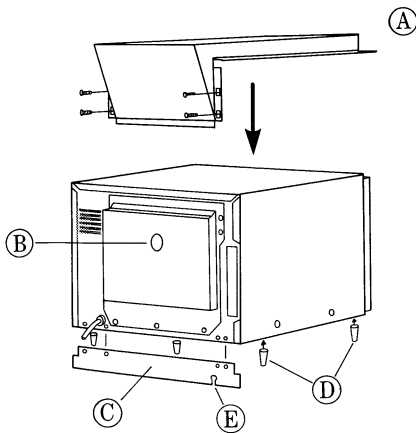

FIG. 4.
To fit the ducting kit (A - Fig. 4) to the oven, first place the oven upright on a flat surface. Second, remove the cover plate (B - Fig. 4) fitted to the rear of the oven by unscrewing the fixing screws securing it. Finally, fit the ducting kit (supplied with the oven) to the rear of the oven using the screws that have been removed.
To fit the baffle and the raised feet to the oven, first place the oven on its side on a flat surface. Second fit the baffle (C - Fig. 4, supplied with the oven) to the bottom rear of the oven, using the existing screws already in-situ. Finally, unscrew the four feet from the underside of the oven (D - Fig. 4) and replace with the four raised feet supplied with the oven as shown in Fig. 4.
N.B. Do not pass supply cable through slot (E - Fig. 4).